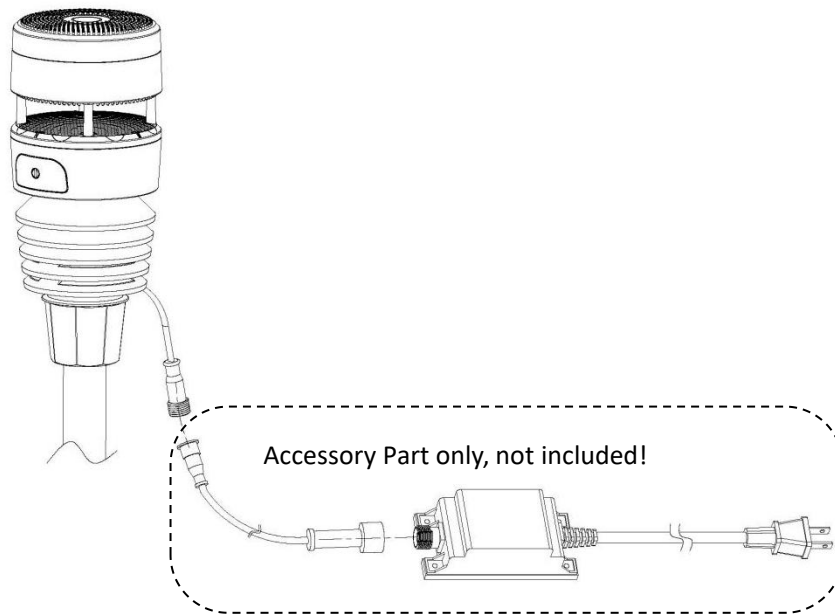

Figure 6: Sensor package mounting diagram
4. During wintertime, to prevent ice formed on the reflection surface, the optional extension cord be connected to a 12v/1.0A outdoor type power adapter as Figure 6 showed below.